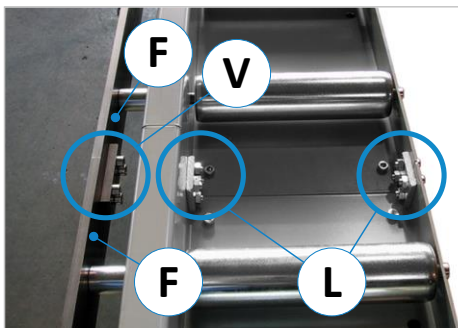

Figure 5: Connecting flat bar and segments
- Afterwards the delivered roller & measuring conveyoy segments must be connected to each other on the front and rear side with the two connecting lugs (L) by screwing them together (see ⇒ Figure 5).
- Screw the vertically mounted guide flat bars (F) of the roller & measuring conveyoy tightly together with the screwed-on connecting bracket (V), see ⇒ Figure 5.
- When attaching the connecting bracket (V), make sure that the flat bars are exactly flush with each other → The air gap between the flat bars should be as small as possible.